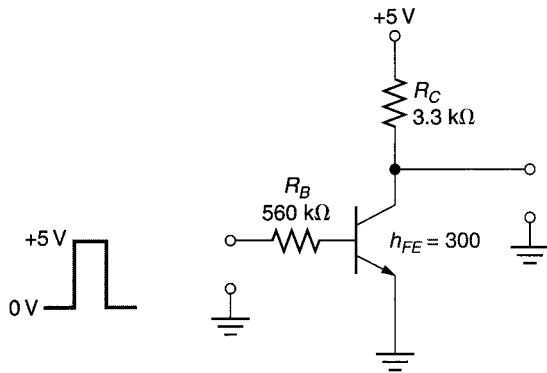

FIGURE 19.47
3. Determine the minimum high input voltage required to saturate the transistor in Figure 19.47.